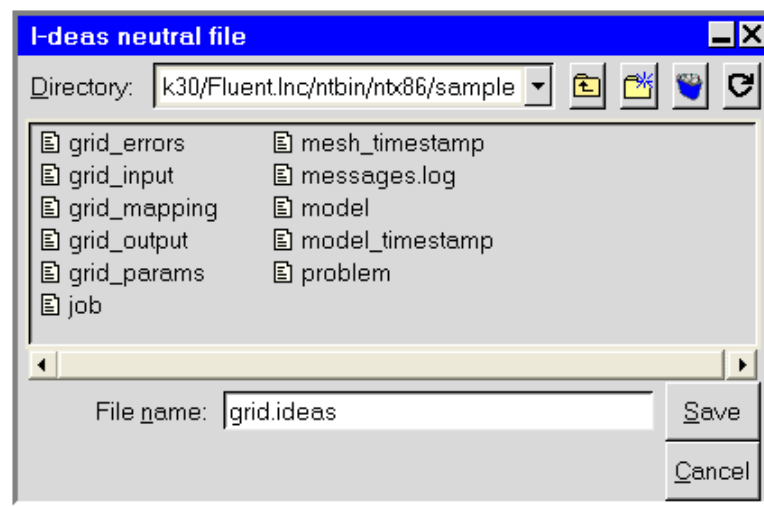

Figure 26.11.2: The I-DEAS neutral file Panel
1. In the Export tab of the Mesh control panel, click Export as IDEAS neutral file. This will open the I-DEAS neutral file panel (Figure 26.11.2).